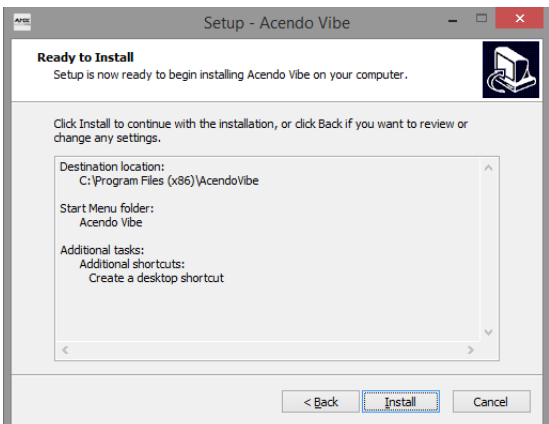

FIG. 24 Acendo Vibe Setup Wizard - Ready to Install dialog
- f. In the *Ready to Install* dialog, click **Install** (FIG. 24):